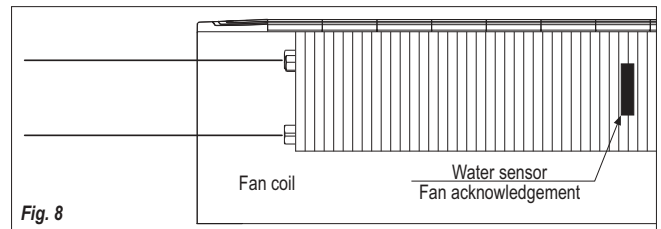

Fig. 8
- If the regulating valve is not installed, the water sensor may be used for the automatic Summer/Winter switching and Acknowledgement for Fan Start (both in the summer and winter modes). Put the sensor between the exchanger fins as shown in figure 8. A thermostat (TC) may be used instead of the water sensor for the sole function of fan acknowledgement: